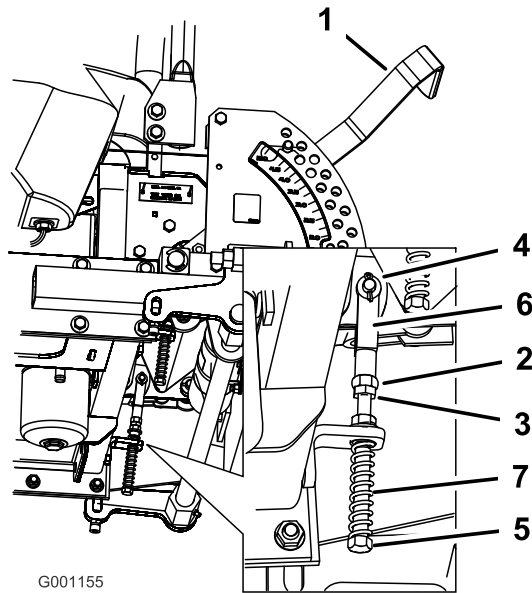

Figure 73
8. If adjustment is needed, loosen the nut and jam nut against the yoke (Figure 73).
9. Apply slight rearward pressure on the motion control lever, turn the head of the adjustment bolt in the appropriate direction until the control lever is centered in the neutral lock position (Figure 73).
10. Tighten the nut and jam nut (Figure 73).